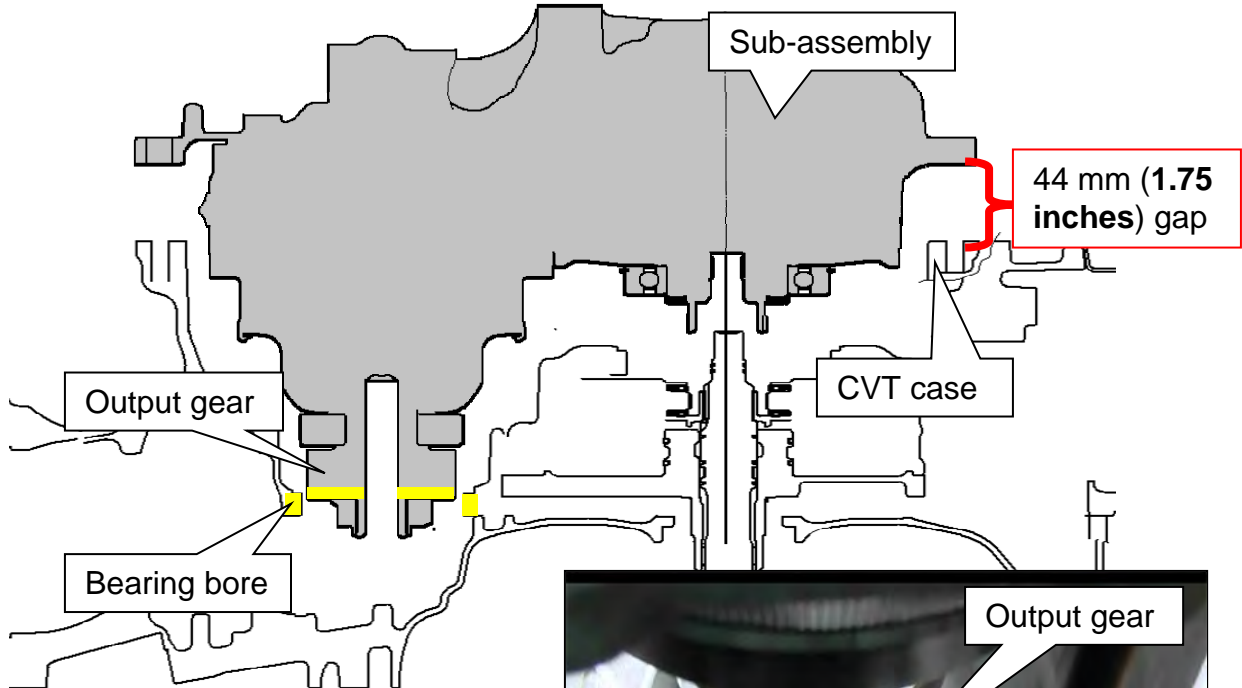

Figure 25F
- If the sub-assembly will not lower any farther than 44 mm (1.75 inches) the output gear has not cleared the bearing bore (Figure 25F).